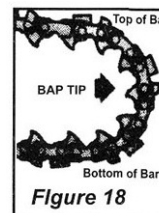

Figure 18
3. Install the chain loop over the drive links within the guide bar groove, and then align the chain over the drive sprocket. Make sure the cutter are properly oriented as shown in Figure 18. If chain installation is difficult or if the chain appears too tight, refer to the section "Adjusting the Chain" on the next page.